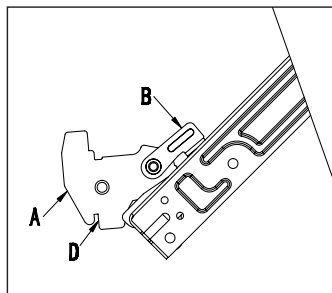

Fig.11-1
1. Open the door completely and lift the 2 levers "B" (fig.11-1).